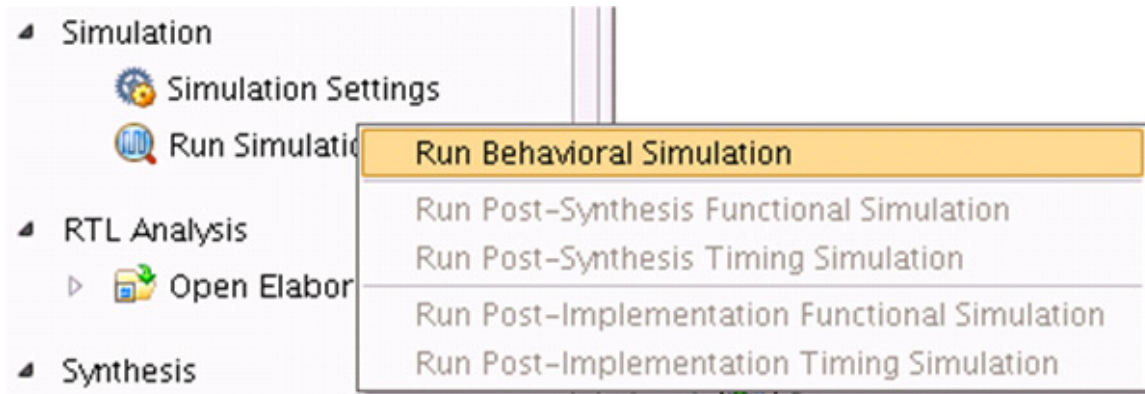

Figure 3-64: Run Behavioral Simulation
3. In the Flow Navigator window, select **Run Simulation** and select **Run Behavioral Simulation** as shown in Figure 3-64.
4. In the **Flow Navigator** window, select **Run Simulation** and select **Run Behavioral Simulation** as shown in Figure 3-64.